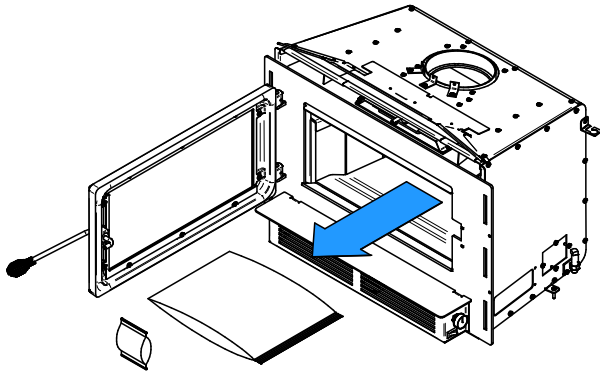
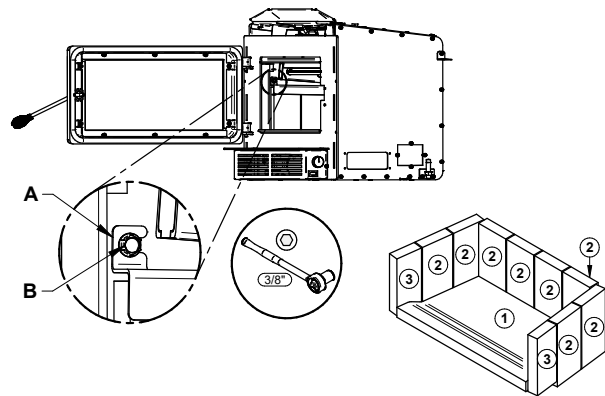

Figure 5 : Empty the combustion chamber
Figure 6 : Remove brick supports
- Empty the combustion chamber (Figure 5) and unscrew the two screws **(B)** of the side refractory bricks supports **(A)**. The bricks can then be removed in the order shown in Figure 6.